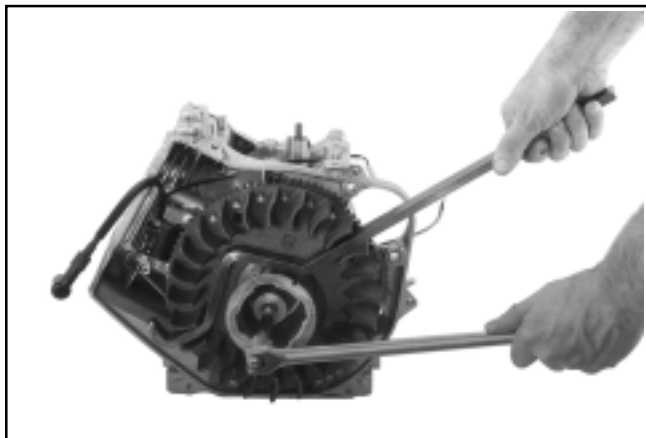

**Figure 9-46. Removing Flywheel Nut using an Impact Wrench.**
1. Remove the flywheel retaining nut, washer, and drive cup. See Figures 9-46 and 9-47.